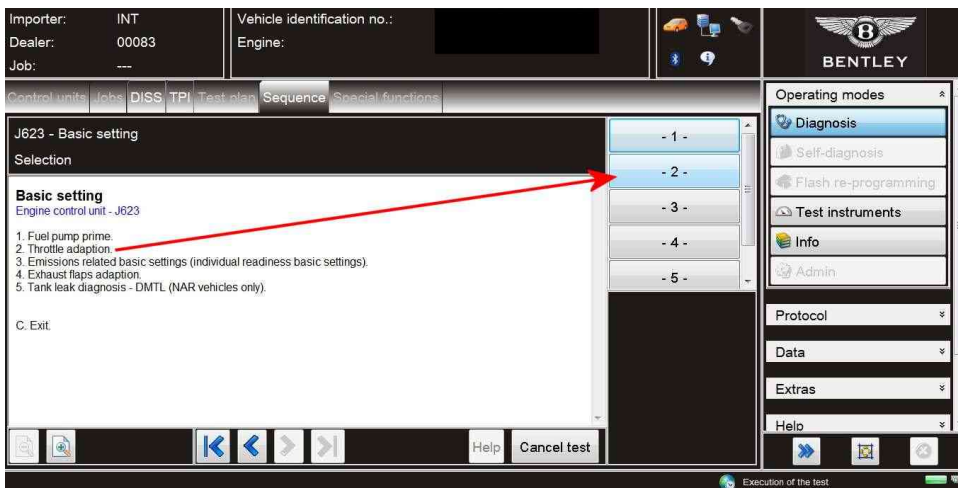

Figure 6
9. The below options will then be shown (Figure 6) Select Option -2- Throttle Adaption.